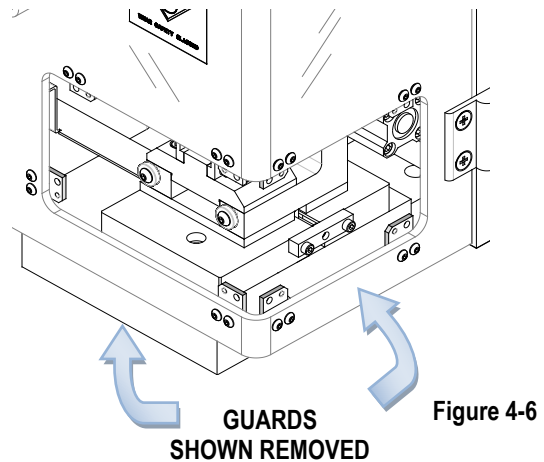

Figure 4-6
3. Remove the Front and Right Guard and set aside. See Figure 4-6.